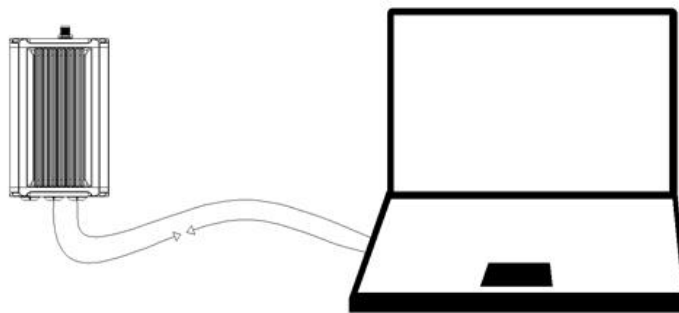

Figure 3.4 Outline of David30-TAP connected to a Computer
1. Follow the connection in Figure 3.4 and the detailed steps in section 3.4.1 to create communication between a David30-TAP receiver and Tersus GNSS Center.